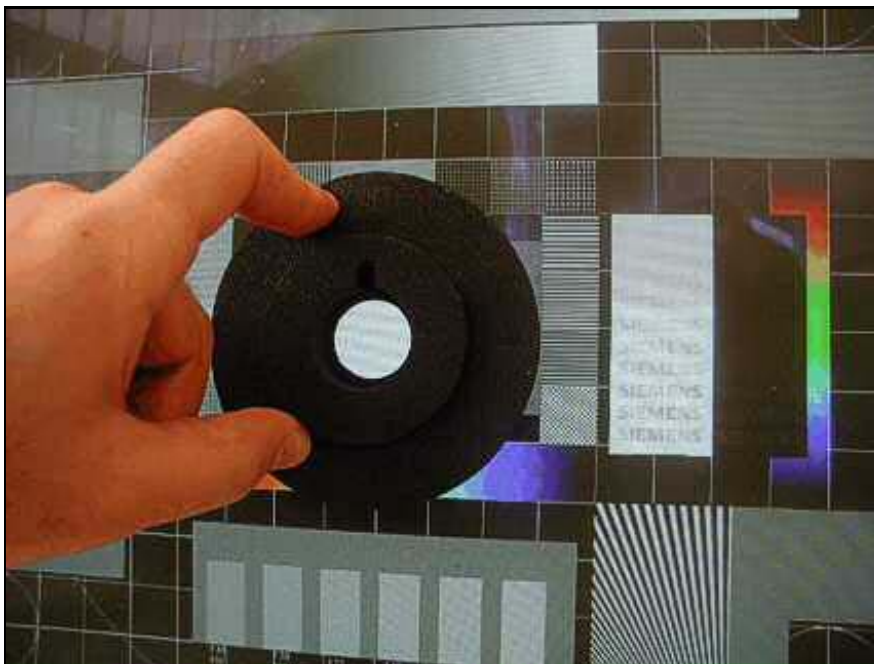
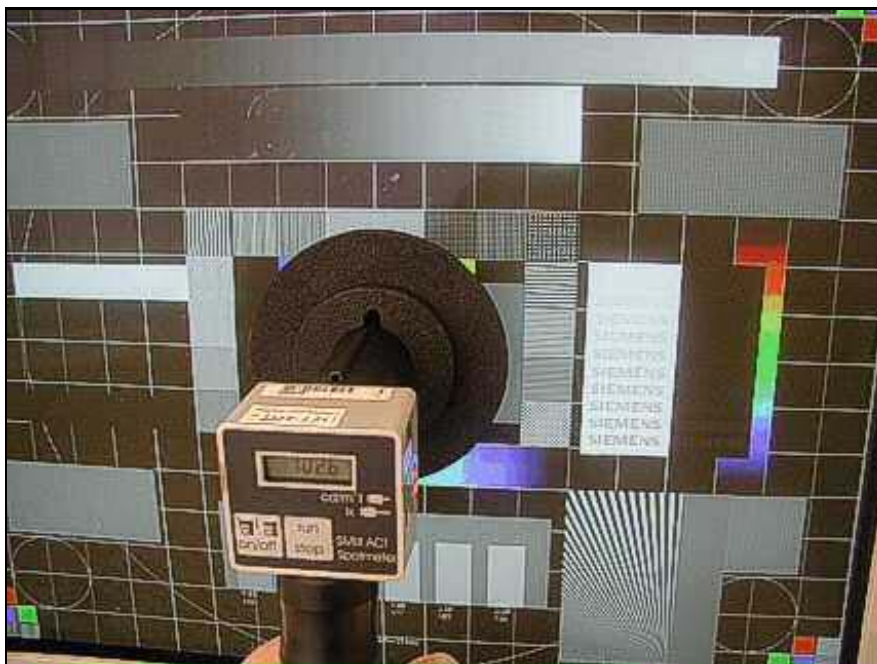

Fig. 65: Diffusion screen positioning at 100%
Fig. 66: Measurement position for 100%
- Without applying any pressure, center the diffusion screen in the 100% field (Fig. 65 / p. 84). The **center hole** should be **filled completely** by the **100%** field. Carefully slide the SMFitAct probe through the center hole of the diffusion screen (Fig. 66 / p. 85)